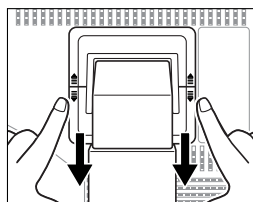

Figure S.2
4. Press the "▼" portion with your index finger and at the same time slide the lower stand cover (Figure S.2).